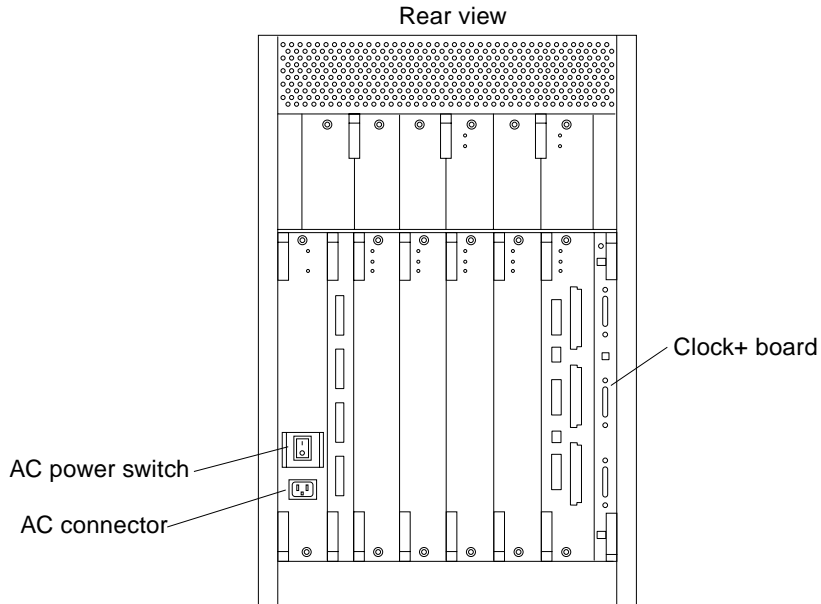

FIGURE 3-2 AC Power and Clock+ Board
The AC power sequencer is at the rear of the enclosure (FIGURE 3-2).
4. **Turn the AC power sequencer power switch to On (FIGURE 3-2).**
2. System AC power switch (FIGURE 3-2)